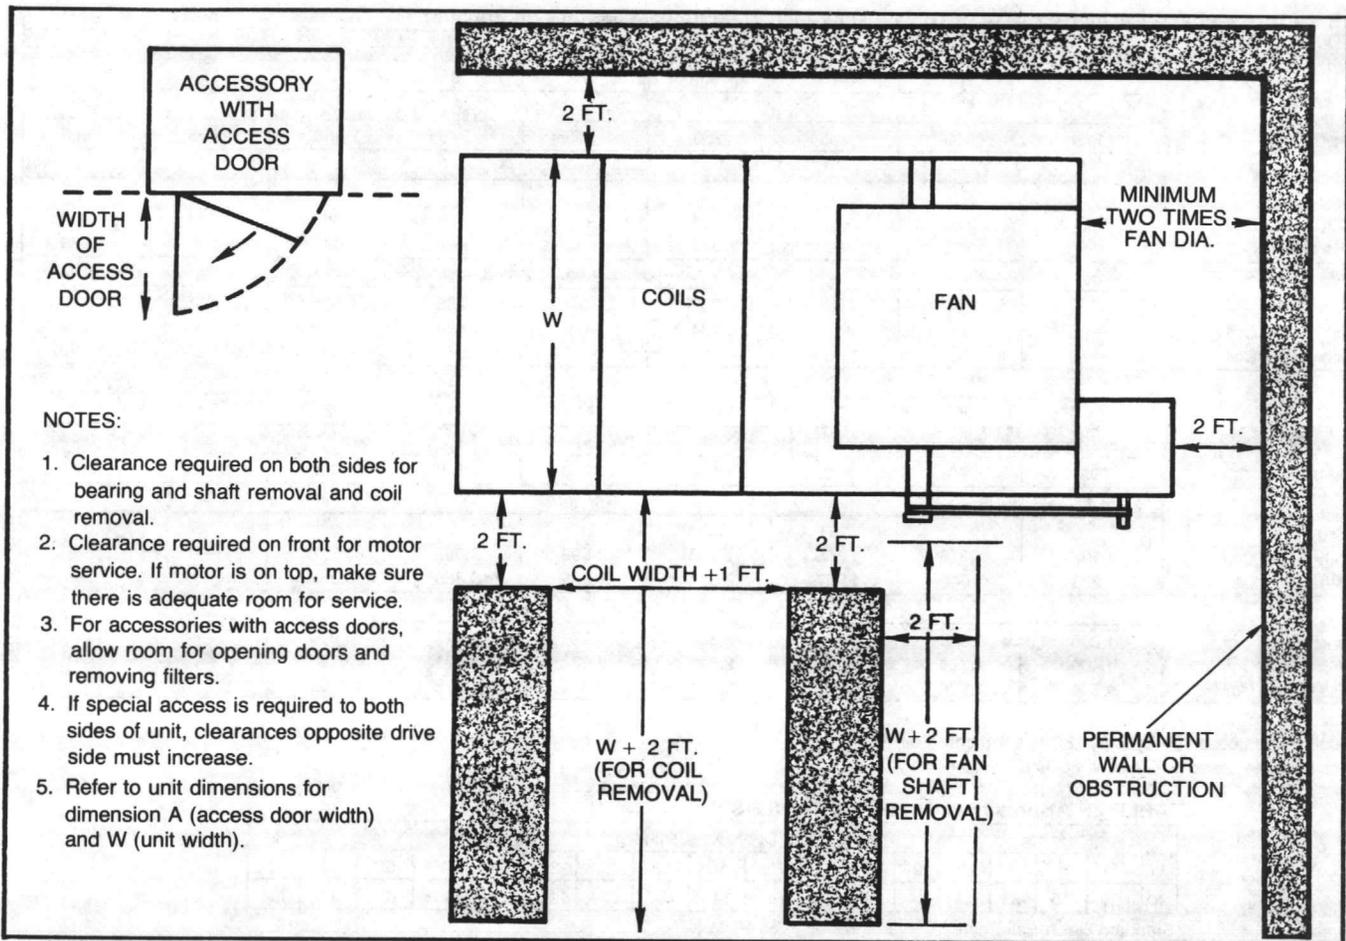

FIGURE 2 - Recommended Clearances
2. Allow sufficient space for the recommended clearances, access panel removal, and maintenance access. Refer to Figure 2. Zero clearance to combustible materials is approved for units with or without steam or hot water heating coils and without electric preheat (UL Standard 883).